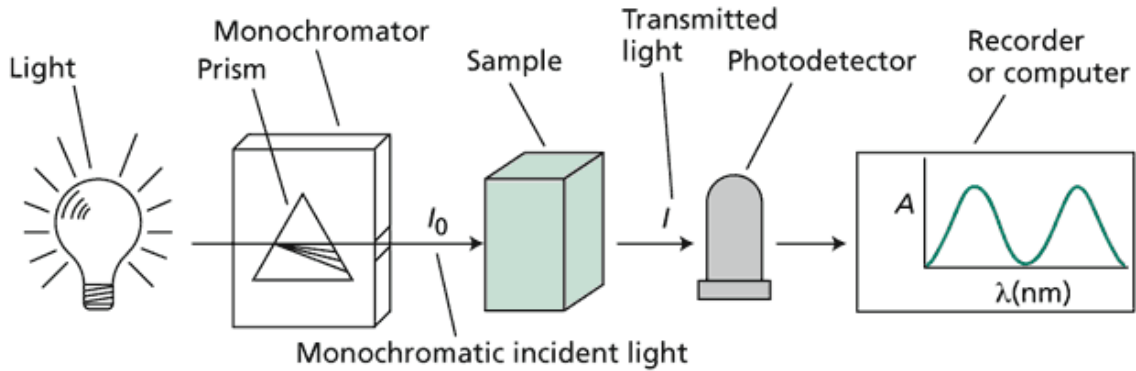

Figure 4. Schematic diagram of a spectrophotometer (Taiz et al., 2015).
Genesis 10s Ultraviolet-Visible (UV-Vis) Spectrophotometer has a light source (Xenon lamp, 1), a monochromator (2) that selects for the desired wavelength, a cell compartment with changer (4), and a pair light detectors, one to monitor the lamp output (3) and one to measure the light transmitted through the sample (5) (Figure 4).